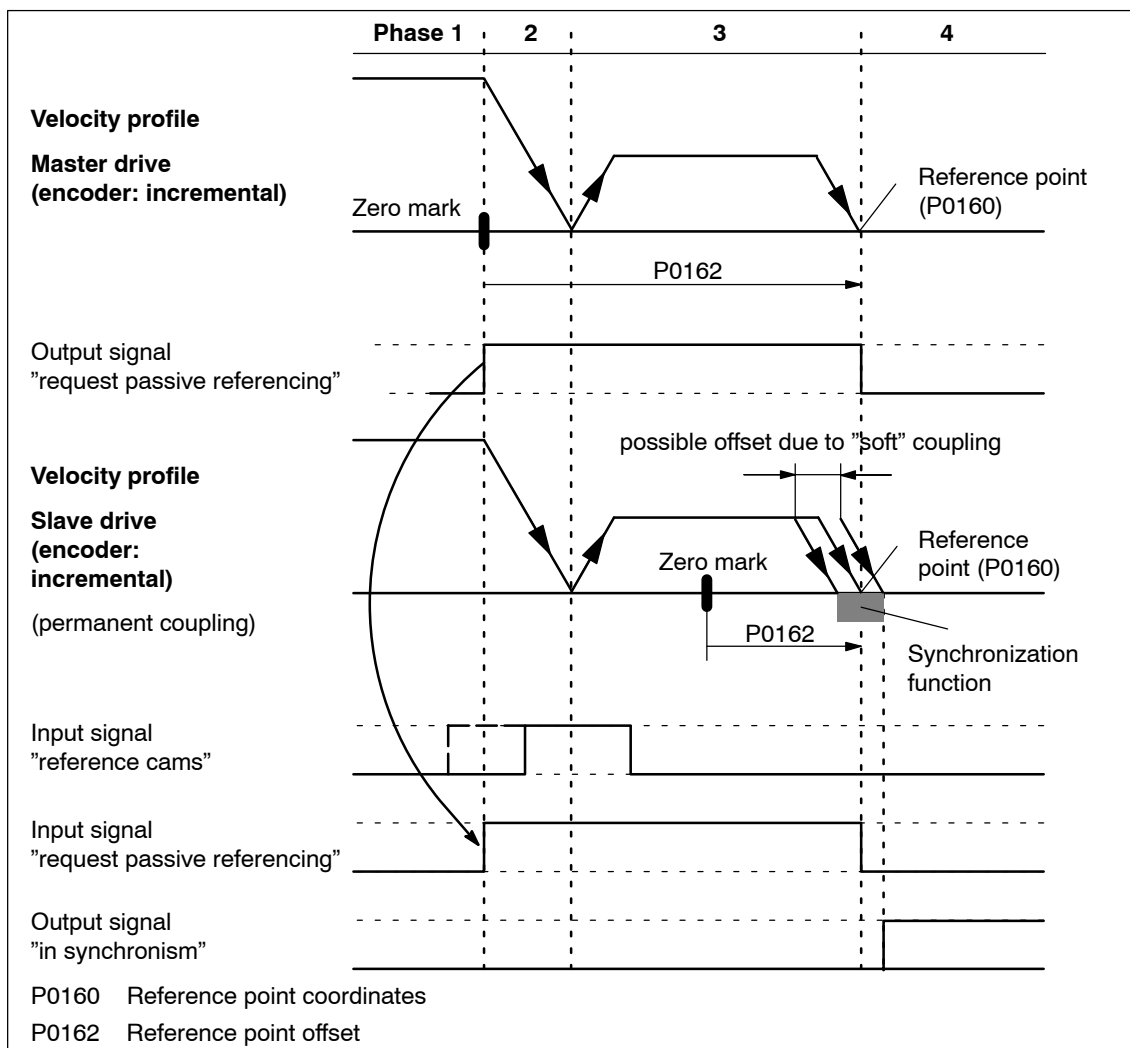

Fig. 6-39 Sequence when passively referencing (master and slave drive with incremental encoder)
1. Carry-out passive referencing as usual (Fig.6-39).